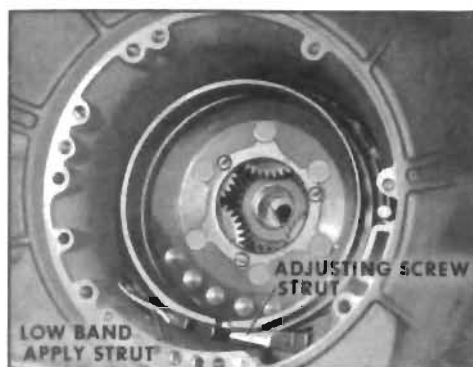

Figure 5-311
4. Install low band apply strut and band adjusting screw strut. After both struts have been installed, tighten low band adjusting screw enough to prevent struts from falling out. See Figure 5-311.